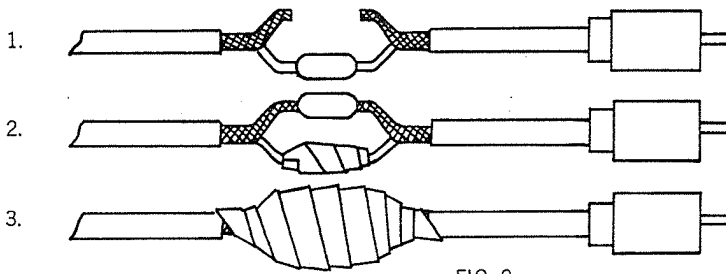

FIG. 2
- b) Obtain a pair of 0.01 mfd. @500V ceramic capacitors. Cut the antenna coaxial cable approximately 3 inches from the male connector. Connect one of the 0.01 capacitors in line with the center copper wire of the coaxial cable and solder. Tape the connections. Add the other capacitor in line with the shielding braids and solder. Tape the entire exposed braids and capacitor for insulation. These capacitors, in line with the conductors of the coaxial cable, now isolate the antenna ground from the ground of the transceiver. (See Fig. 2)